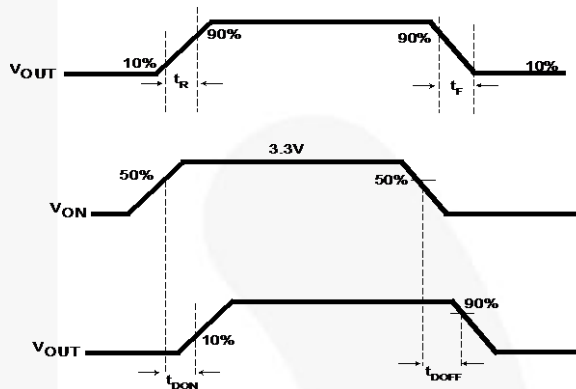

Figure 23. Timing Diagram for FPF1203/4/045
4. $t_{DON}/t_{DOFF}/t_R/t_F$ are defined in Figure 23.